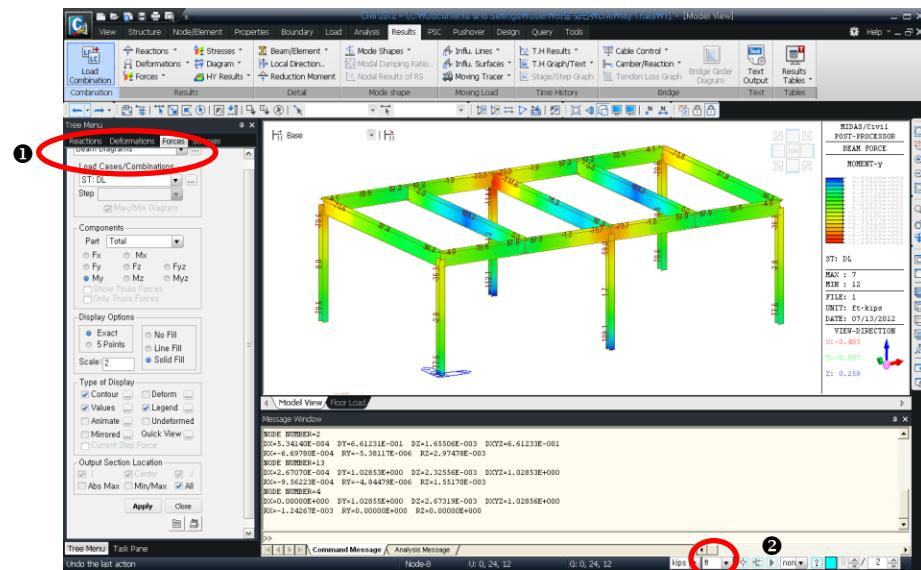

Figure 1.31 Member Forces Contour Lines
1. Click the unit selection button  of Fig.1.31–❷ and select “ft”.
4. Select **Beam Forces/Moments** from the functions selection field (Fig.1.31–❶)..